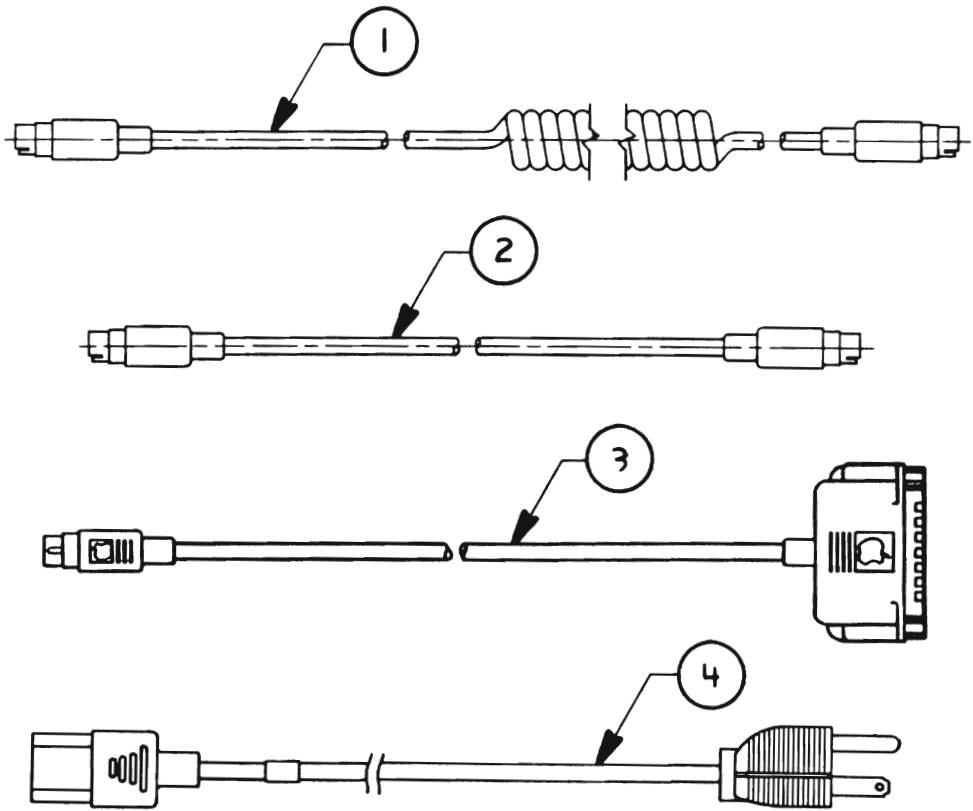

FIGURE 5
□ APPLE IIgs – CABLES (Figure 5)